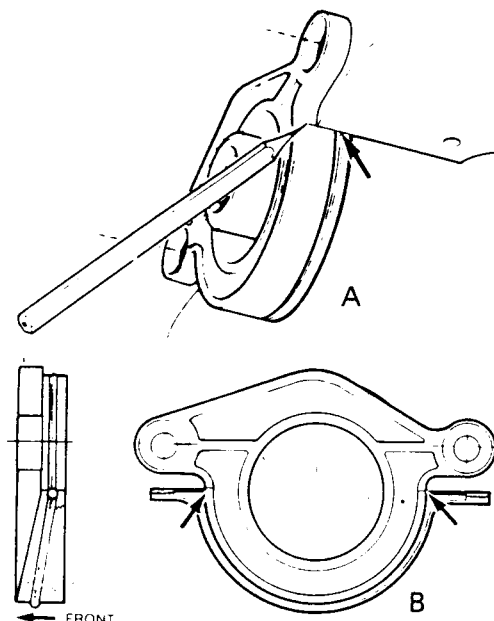

Fig B4.56
- (3) Refer to Fig B4.56. Using a lead pencil mark the position of the crankcase rails on the housing. (Fig B4.56A).
- (4) Remove the housing.